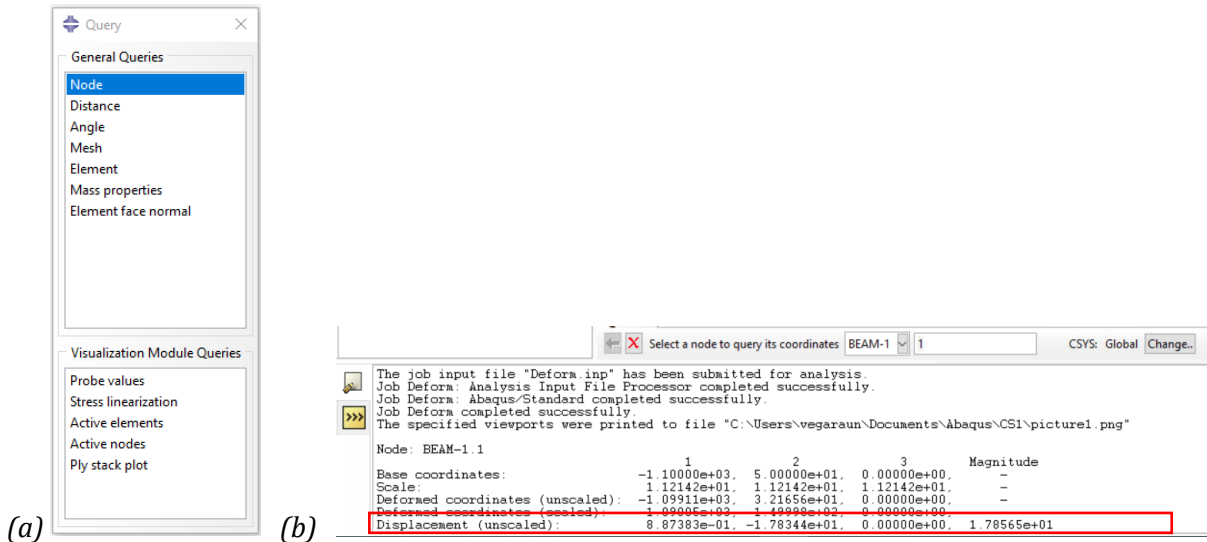

Figure 2-35 – (a) The Query dialog box and (b) the Kernel Command Line Interface.
- In the **Query** dialog box, use **Node** as the **General Queries**. Input the node in the prompt area or select a node in the viewport. The numerical value for the displacement is displayed in the **Kernel Command Line Interface**, see Figure 2-35(b).